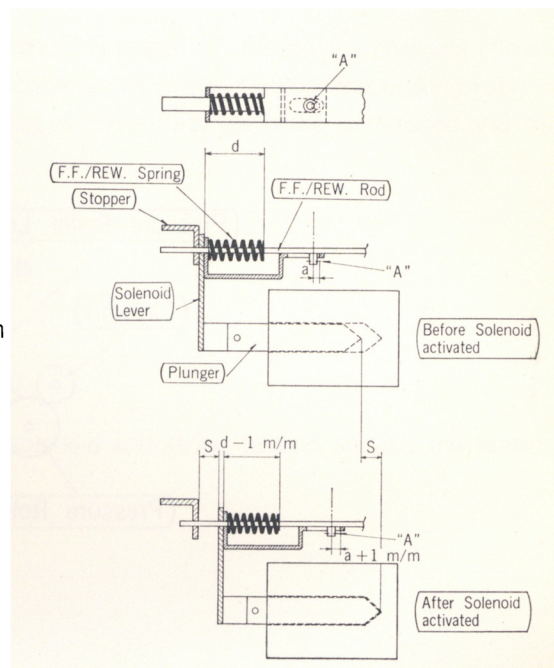

Fig. 25
- (A) With the plunger rod depressed entirely into the coil, adjust the gap as shown in Fig. 25 below to approx. 0.03937 inch (1 mm).